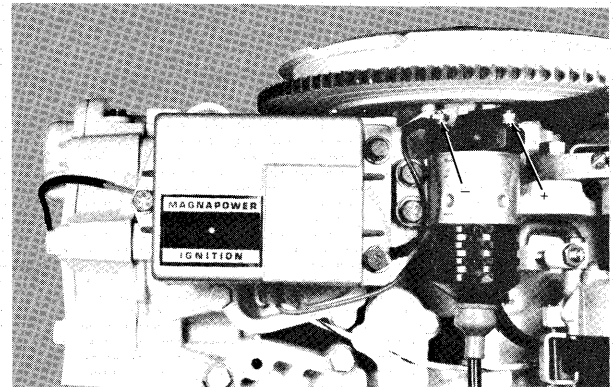

Figure 5—C-D Unit
- B. Disconnect grey lead wire from (+) terminal stud on coil. See figure 5.